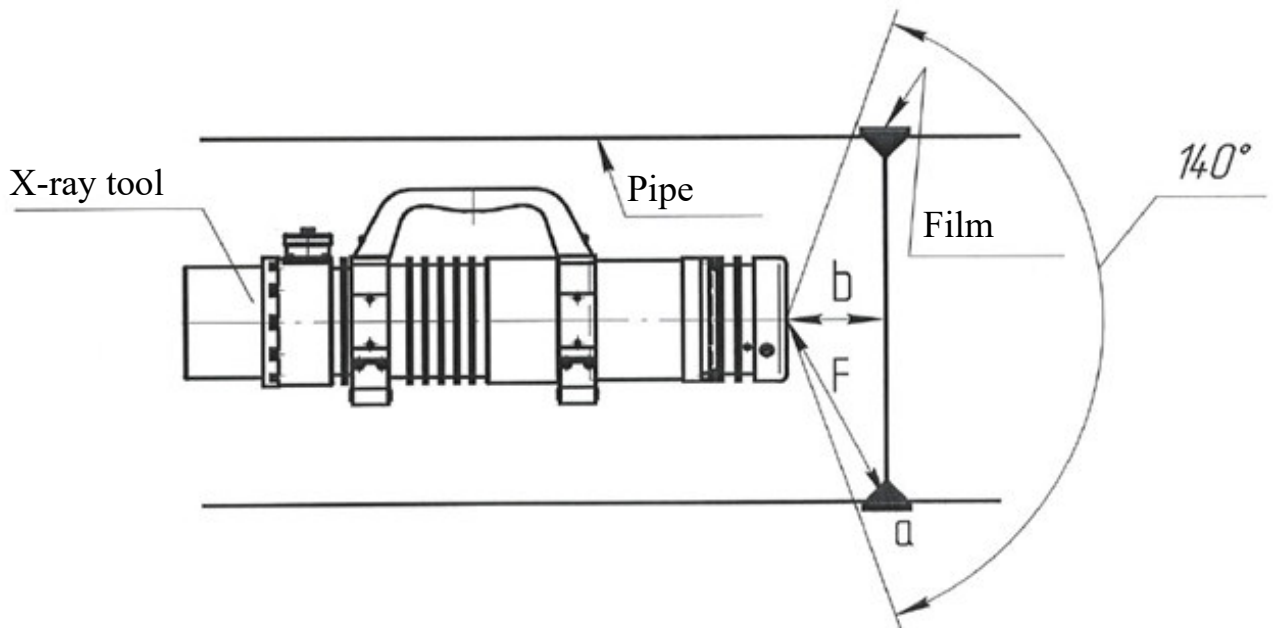

Figure 8 – MART-200 tool offset for panoramic beam imaging
7.9.2 In its panoramic beam mode, MART-200 tubehead needs to be offset a certain distance from the weld. A schematic diagram of the tubehead position inside a pipe is shown in Figure 8.